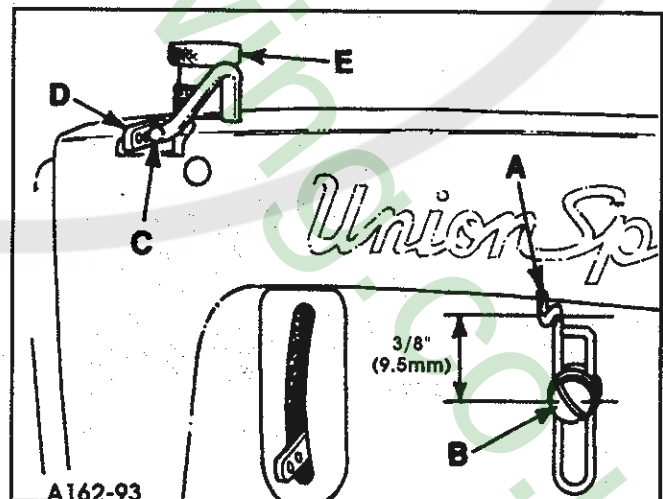

FIG. 24
Set the needle thread frame eyelet (A, Fig. 24)  $\frac{3}{8}$ " (9.5mm) above the center of mounting screw (B). The top of take-up wire (C) should be even with the top holes in the needle thread eyelet (D) with the hole at bottom of stroke. For less loop lower this setting, for more loop increase setting.
Regulate the presser spring regulating screw (E, Fig. 24) so that it exerts only enough pressure on the presser foot to feed the work uniformly when a slight tension is placed on the fabric. Turning it clockwise increases the pressure, counterclockwise acts the reverse.